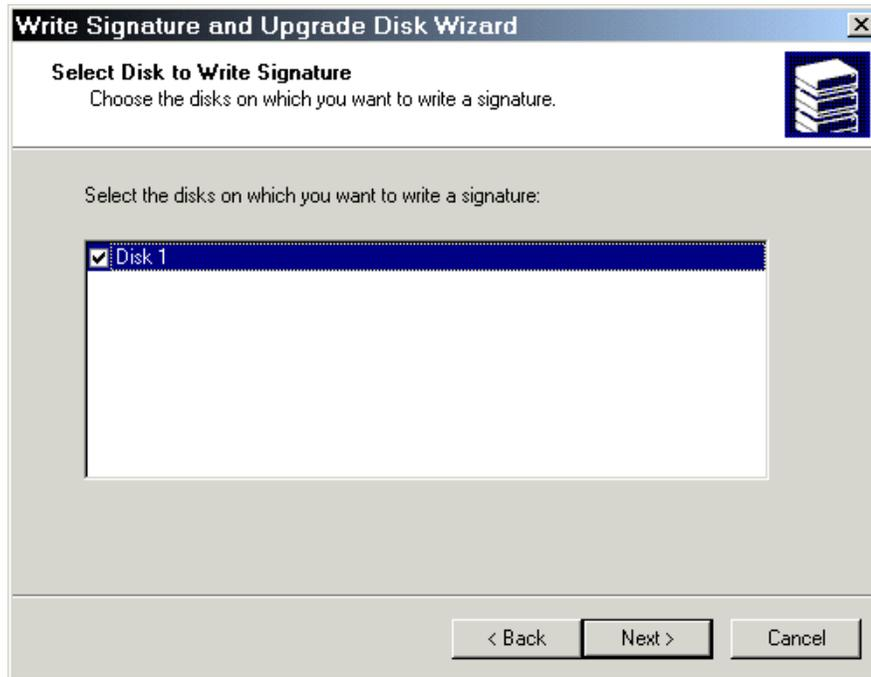

Figure 1-16 Select Disk
5. Select a newly added disk in order to write a signature, as shown in Figure 1-16.